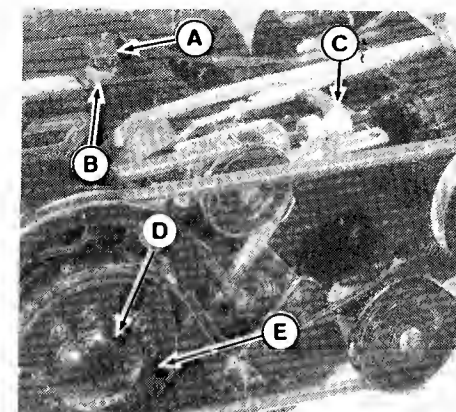

Figure 11. Planetary Gear - Semi-Automatic
1. With tractor engine off, key removed, and parking brake set, pry off cover cap (D, figure 11) carefully with a screwdriver.
4. Apply a small amount of grease to the pin groove of the drive brake detent (C) and to the head of the bolt (B) that actuates the interlock safety switch (A).